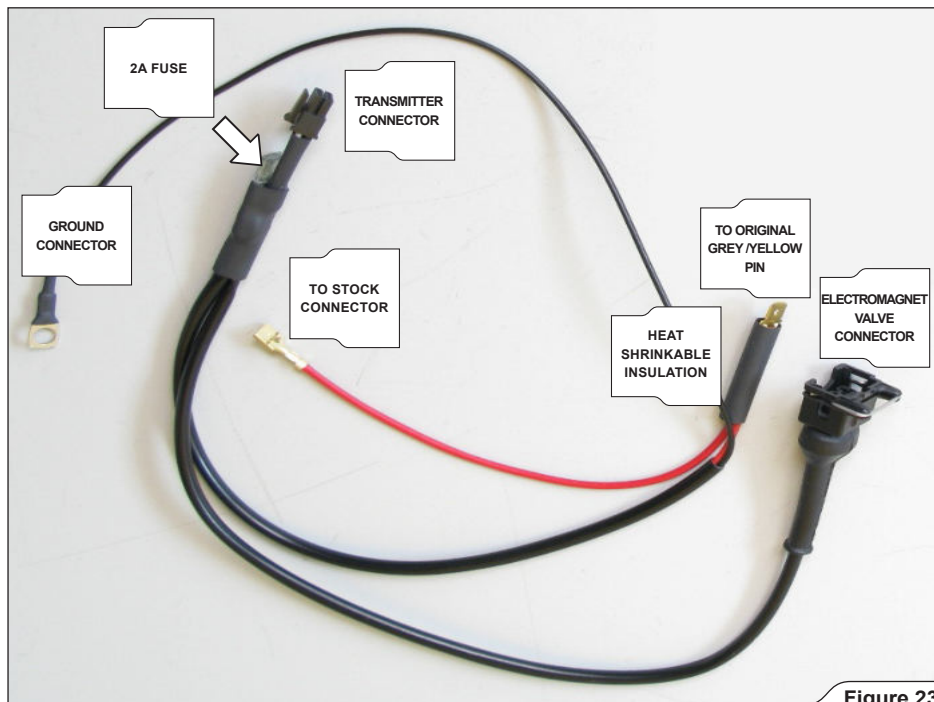

Figure 23
14. For plug-in socket powered Wireless only: transmitter wiring harness (Figure 23).